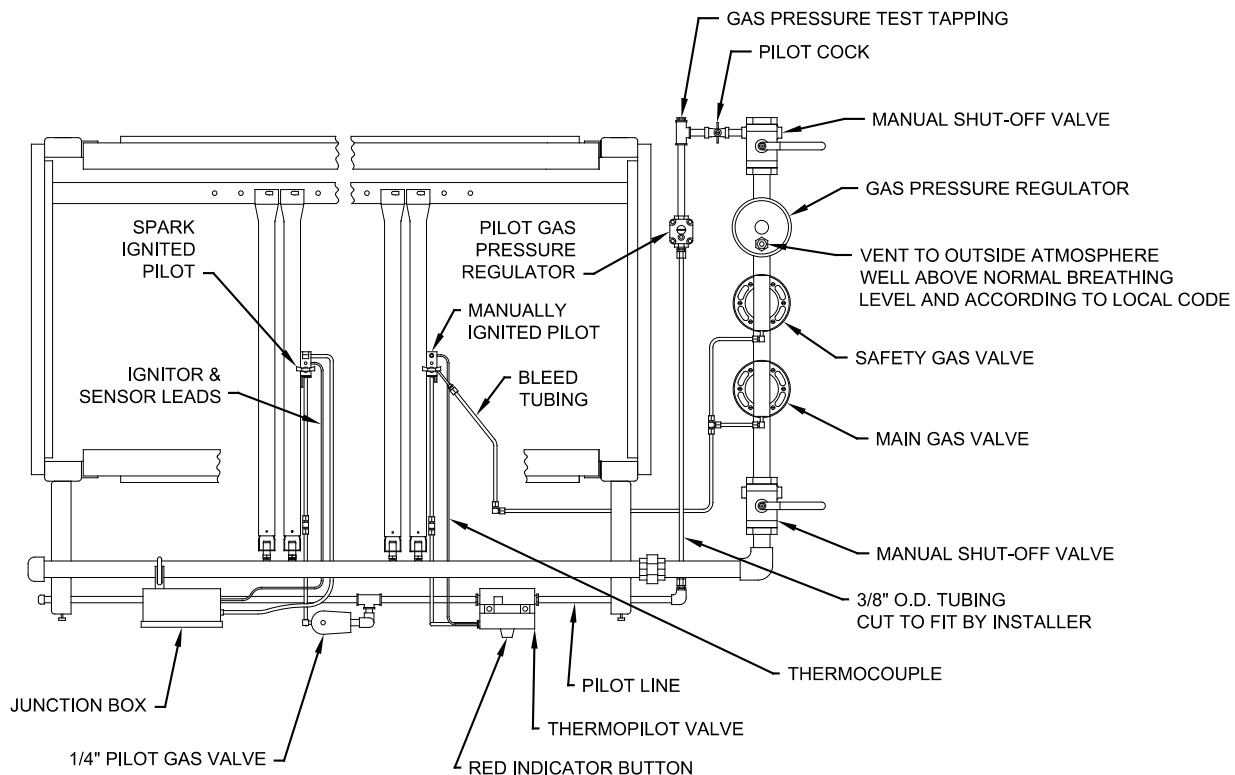

Figure 7.1: Gas Control Train and Burner Assembly
- Assemble the Gas Control Train to the Manifold with the ground joint union provided. See Figure 7.1.